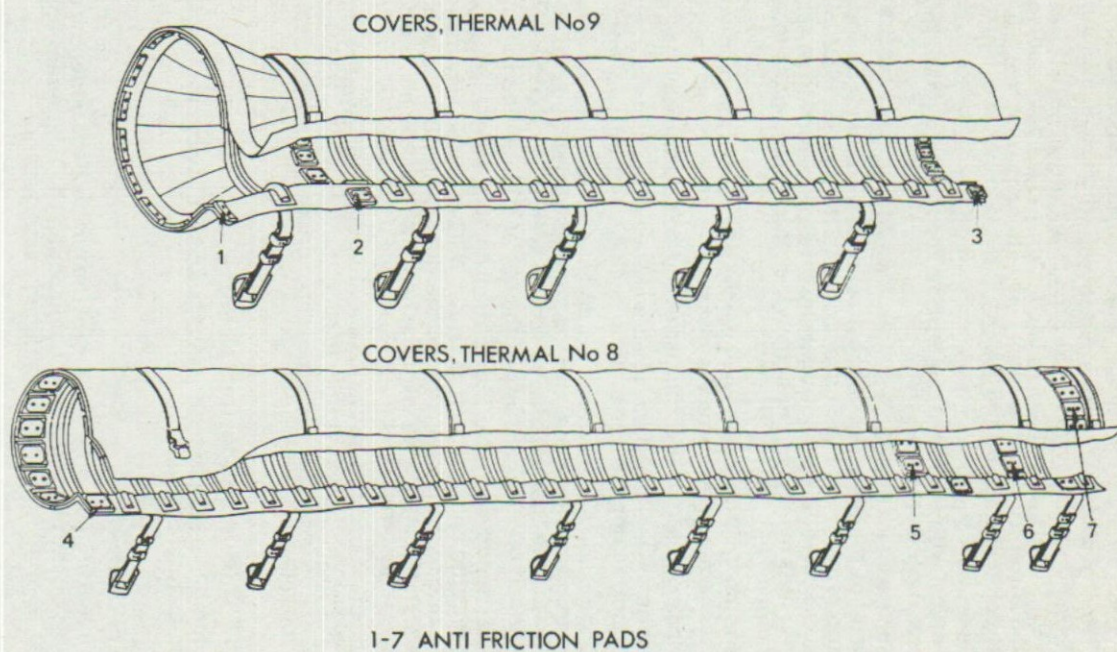

Fig 9 - Thermal sleeve L6A4
- (1) Covers, thermal, No. 8 and 9 (see Fig 9).
- (2) Clamps, loop, No. 1, 2 and 3.
- (3) Clips, hose, worm drive type, 11-in in dia.
3. The differences between the two thermal sleeves are that the L6A4 is a light weight sleeve compatible with the L11A5 barrel and gun clamp. The L6A3 sleeve is used with barrels of earlier marks and on tanks fitted with a gun crutch. (See Figs 9 and 10).